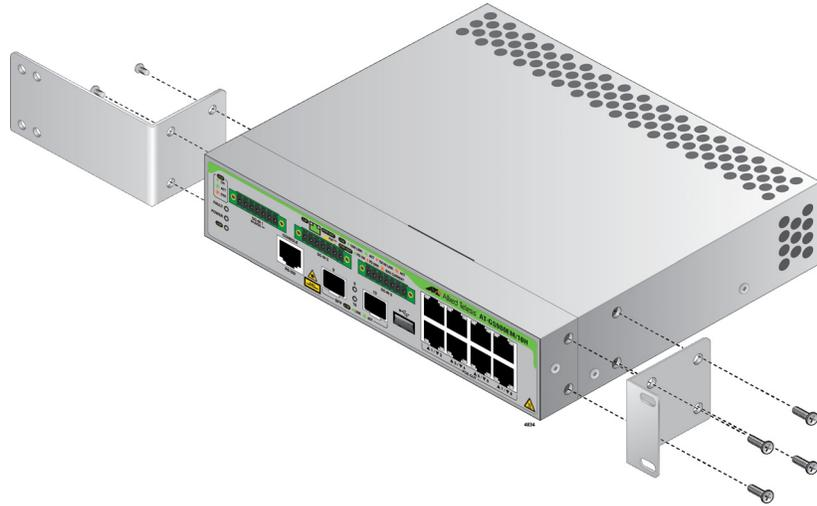

Figure 30. Attaching the Brackets to the Device
2. Attach the short L bracket to one side of the device and the long L bracket on the other side of the device using the eight M4x6 mm screws included with the unit. Refer to Figure 30.